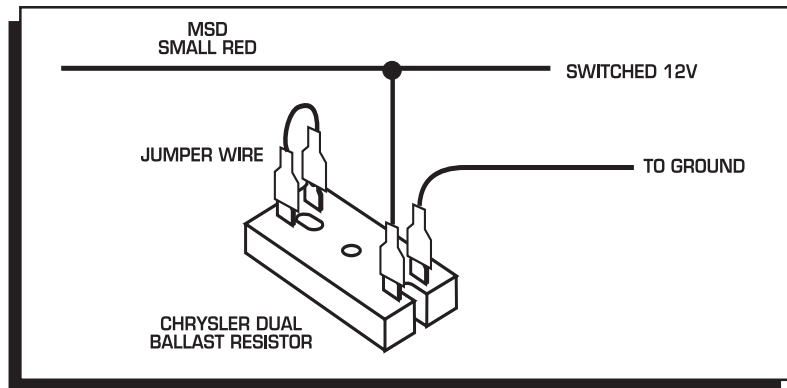

**Figure 6** Installing the Diode to fix Run-On.
**Early Ford and GM:** To solve the Run-On problem, a Diode is supplied with the MSD in the parts bag. By installing this Diode in-line of the wire that goes to the Charging indicator, the voltage is kept from entering the MSD. Figure 6 shows the proper installation for early Ford and GM vehicles.
**Note:** Diodes are used to allow voltage to flow only one way. Make sure the Diode is installed facing the proper direction (as shown in Figure 6).
GM Delcotron Alternators use an internal voltage regulator. Install the Diode in-line on the smallest wire exiting the alternator (Figure 6). It is usually a Brown wire.